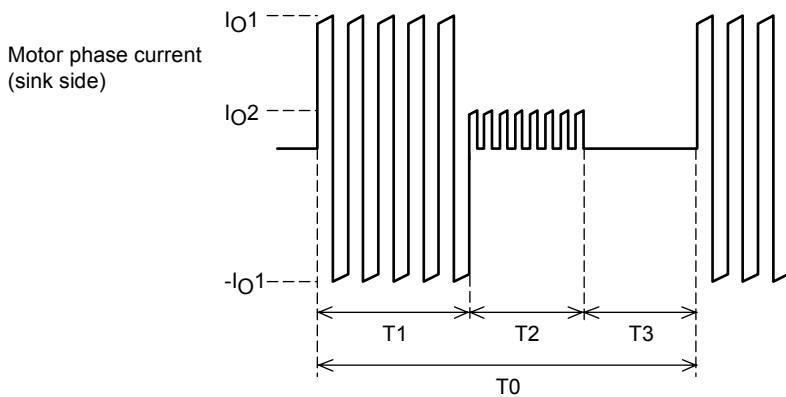
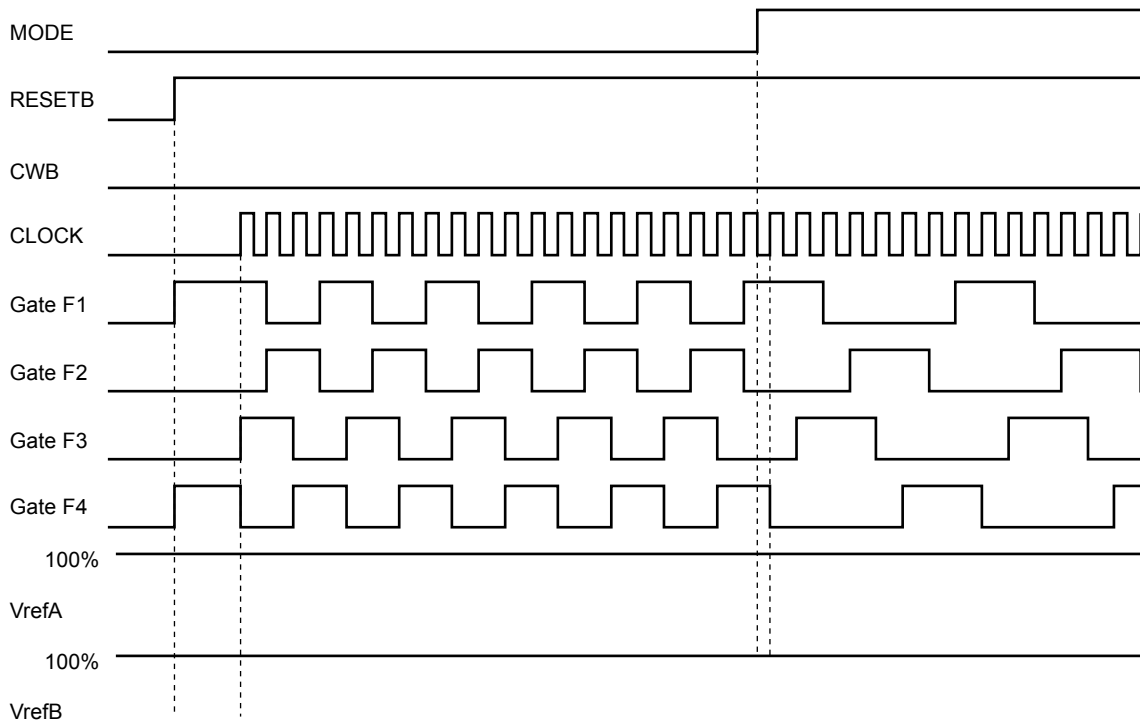
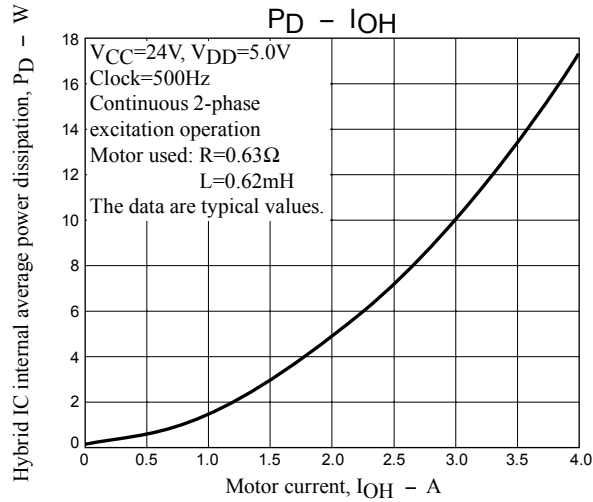

Figure 4 Motor Current Timing
Figure 5 Hybrid IC internal average power dissipation,  $P_D$  - Motor current,  $I_{OH}$
Figure 6 Substrate temperature rise,  $\Delta T_c$  - Hybrid IC internal average power dissipation,  $P_D$
As shown in figure 6, the value of ΔTc increases as the hybrid IC internal average power dissipation PD increases. As shown in figure 5, PD increases with the motor current. Here we describe the actual PD calculation using the example shown in the motor current timing chart in figure 4.
Since there are periods when current flows and periods when the current is off during actual motor operation, PD cannot be determined from the data presented in figure 5. Therefore, we calculate PD assuming that actual motor operation consists of repetitions of the operation shown in figure 4.
Note that figure 4 presents the concepts here, and that the on/off duty of the actual signals will differ.
If the value calculated in formula (I) above is under 1.4W, then from figure 6 we see that operation is allowed up to an ambient temperature Ta of 60°C.
While the operating range when a heat sink is not used can be determined from formula (I) above, figure 5 is merely asingle example of one operating mode for a single motor.
For example, while figure 5 shows a 2-phase excitation motor, if 1-2 phase excitation is used with a 500Hz clock frequency, the drive will be turned off for 25% of the time and the dissipation PD will be reduced to 75% of that in figure 5.